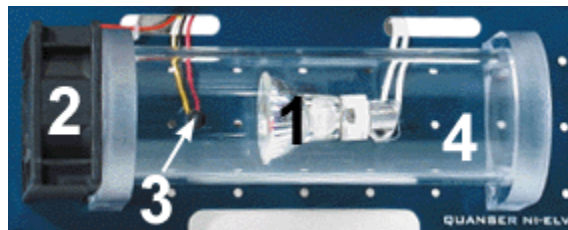

Figure 1 HVAC System
As a quick nomenclature, Table 1, below, provides a list of the principal elements composing the Heating, Ventilation, and Air Conditioning (HVAC) Trainer system. Every element is located and identified, through a unique identification (ID) number, on the HVAC plant represented in Figure 1, below.